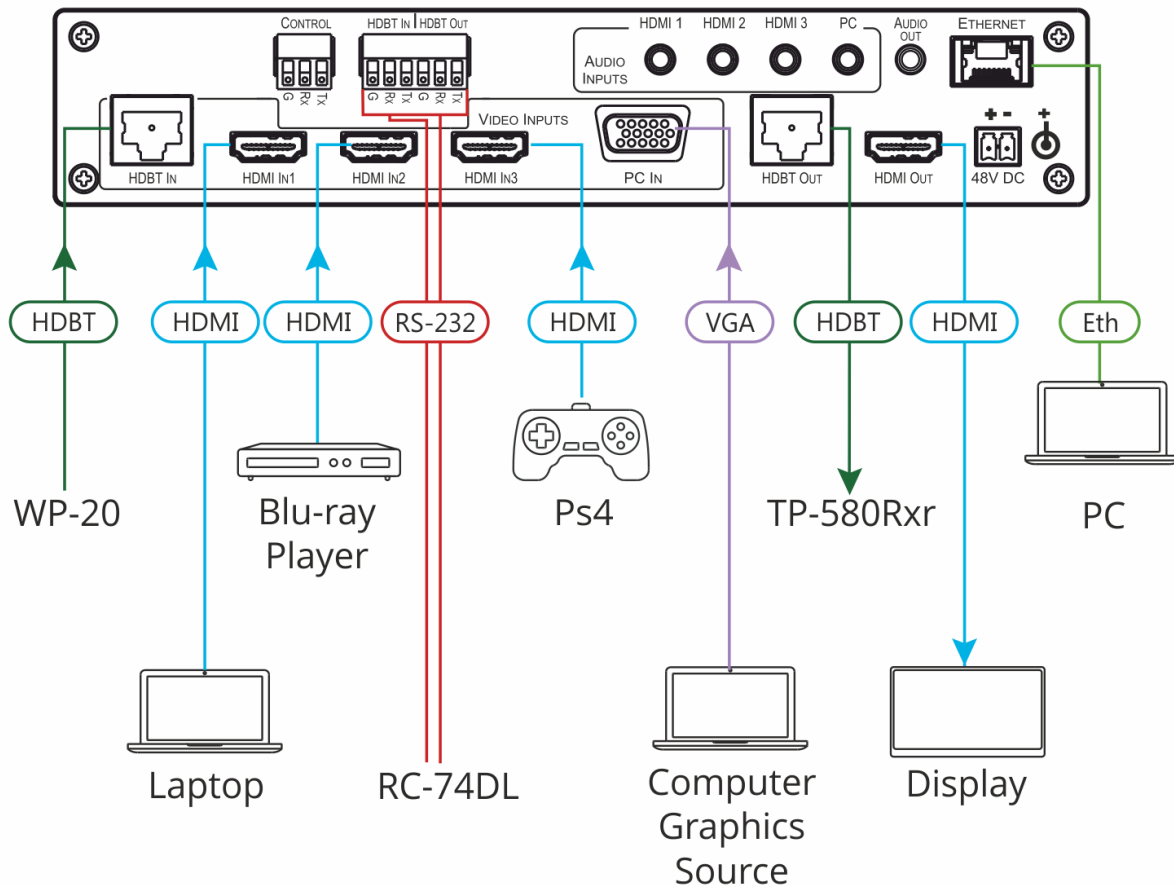

Figure 3: Connecting to the VP-440H2 Rear Panel
To connect VP-440H2 as illustrated in the example in Figure 3, do the following:
- A computer graphics source to the PC IN 15-pin HD connector (19).
- An HDBaseT transmitter (for example, Kramer **WP-20** Wall Plate Transmitter) to the HDBT IN RJ-45 connector (17).
- HDMI sources (for example, a laptop, a blue-ray player, and a gaming console) to the three HDMI IN connectors (18).
2. Connect an analog stereo audio source (not shown in Figure 3) for each of the three HDMI inputs and for the PC input to the 3.5mm mini jack connectors (15).
- An HDBaseT receiver (for example, Kramer **TP-580Rxr**) to the HDBT IN RJ-45 connector (20).
- An HDMI acceptor to the HDMI OUT connector (21).
4. Connect an unbalanced stereo audio acceptor (for example, active speakers, not shown in Figure 3) to the AUDIO OUT 3.5mm mini jack (15).
5. Connect a laptop to the Ethernet RJ-45 connector (16).
6. Connect an RS-232 controller (for example, Kramer **RC-74DL**) to the HDBT IN (11) and HDBT OUT (12) terminal block connectors.
7. Connect the 48V power supply to the 48V DC power terminal block (22).
8. If required, connect a PC or serial controller (not shown in Figure 3) to the CONTROL (Tx, Rx, G) terminal block connector, to control the unit via serial control (15).